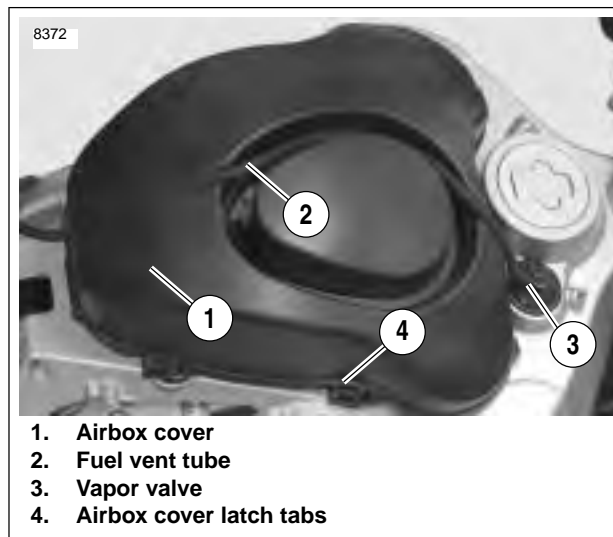

Figure 1-37. Airbox, Fuel Vent Tube and Fuel Vapor Valve
3. See Figure 1-37. Remove fuel vent tube (2) from vapor valve (3) and groove on top of airbox cover (1).
4. See Figure 1-37. Unlatch six latching tabs (4) and remove airbox cover from baseplate.
2. See Figure 1-37. Position airbox cover (1) over baseplate. Make sure air filter remains correctly positioned.
3. Install airbox cover by latching six latch tabs (4) to baseplate.
4. Position fuel vent tube (2) in groove on top of airbox and connect to fuel vent valve (3). Secure vent tube to vent valve with **new** cable strap.